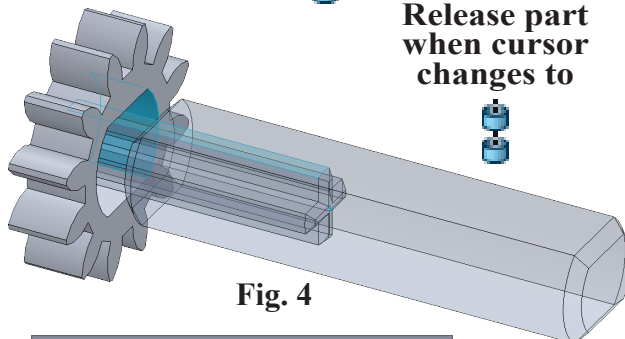

Fig. 4
Step 7. In the graphic area position Sprocket over cylindrical face of Lego Axle in Driver Axle, **Fig. 4**. When Sprocket snaps into place and cursor changes to indicate Concentric mate , click to release Sprocket.